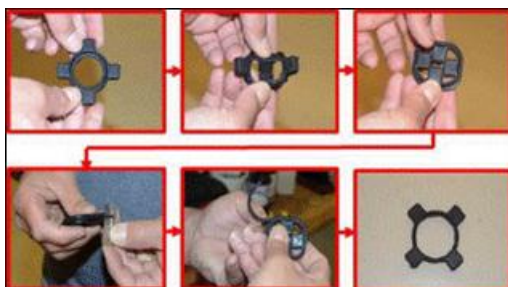

Fig. 4 Trim Snubber
**Step 4.** Prior to installing the snubbers, fold them inside out and trim the excess inner rib with a razor blade as shown in (Fig. 4). Return the snubbers to their original state and insert between the vehicle body and the left and right upper crossmember mount.